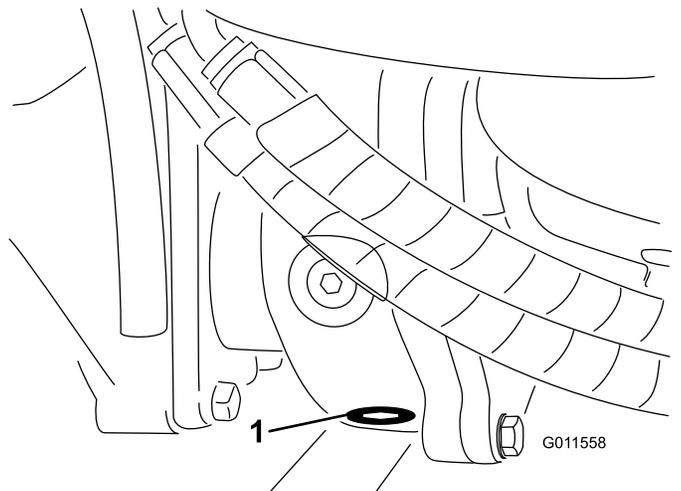

**Figure 71**
2. Clean the area around the 3 drain plugs; 1 on each end and 1 in the center (**Figure 71**).